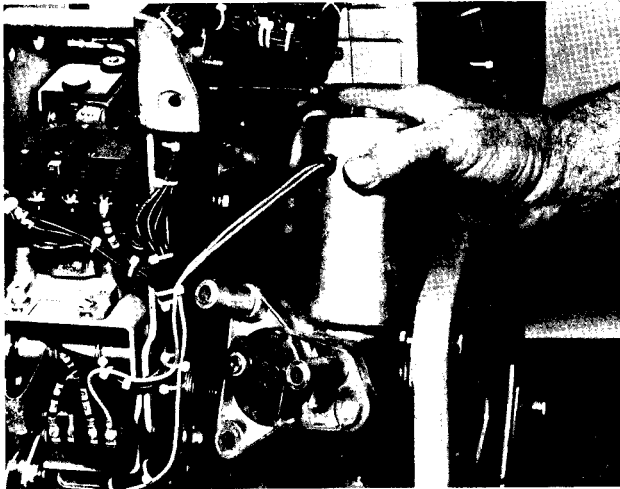

FIG. 3
5. Remove the remaining two mounting bolts of the motor and all spacers. Lift and place the motor aside, see figure 3. Do not disconnect any wires.